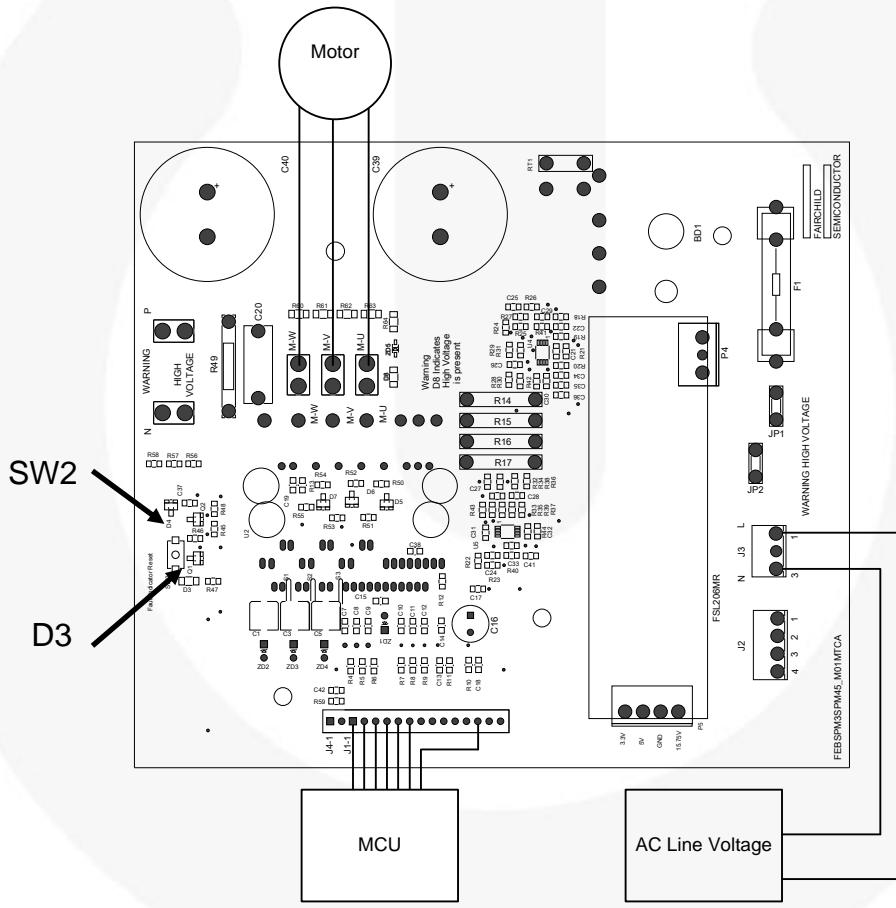

**Figure 5. High-Voltage Areas (Bottom Side)**
- See Figure 4 and Figure 5 for areas on the board that must be avoided due to the presence of HIGH VOLTAGES. When bulk capacitors are charged, avoid contact with board circuitry.